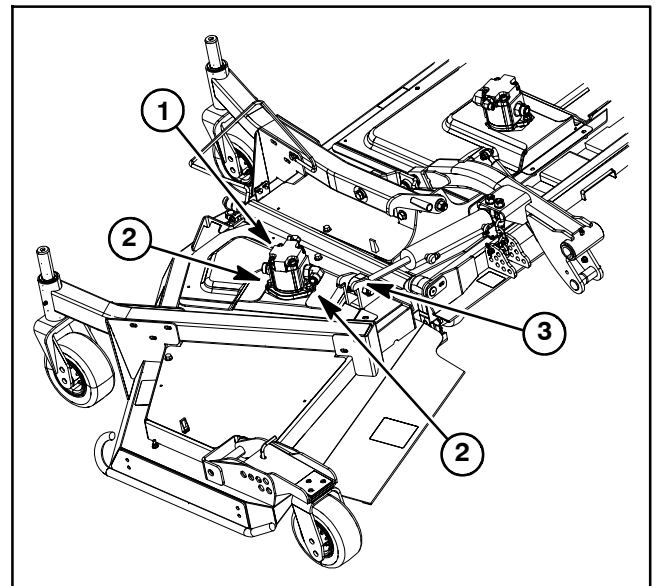
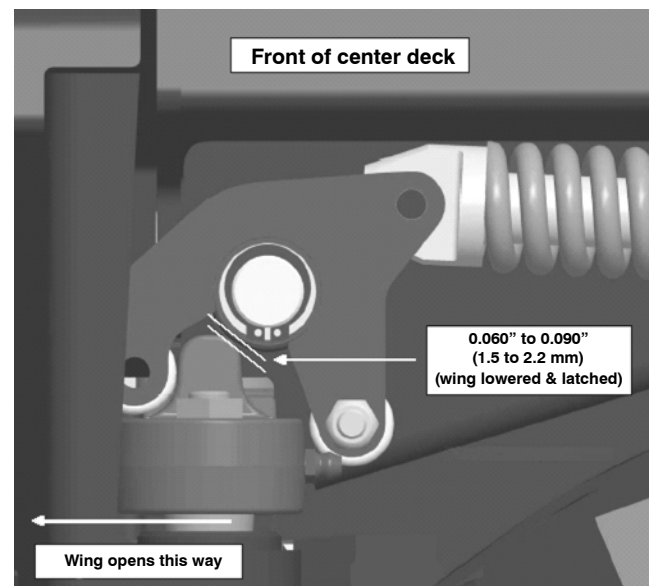

Figure 7
Figure 8
2. Fully raise wing deck, stop engine and remove key from the ignition switch. Remove three (3) washer head screws and shield strap that secure flex shield to wing deck. Lower wing deck.
4. Remove cap screw and lock nut that secure lift cylinder clevis to the wing deck (Fig. 7).
5. Remove switch shield (item 50) from center deck.
6. Support wing deck to prevent it from falling as link assemblies (item 21) are removed.
7. Remove cap screw (item 29) from pivot pin on upper end of both link assemblies. Cap screw on rear link also uses a flat washer (item 28).
- A. Place one (1) hardened spacer (item 42) on each side of the front link. Use two (2) thrust washers on rear side of assembly so that link is snug between deck brackets. Additional thrust washers should be installed, if necessary, to remove excess clearance.
- B. Place one (1) thrust washer (item 6) on each side of rear link. Clearance between rear link and deck bracket is acceptable.
7. Install cap screw (item 29) to pivot pin on both links. Cap screw on rear link uses a flat washer (item 28). Cap screw on front link also secures hose guide (item 38).
8. Position lift cylinder clevis to the wing deck and secure with cap screw and lock nut (Fig. 7).
10. Fully raise wing deck, stop engine and remove key from the ignition switch. Secure flex shield to wing deck with shield strap and three (3) washer head screws. Lower wing deck.
11. Inspect deck latch assembly to insure that front link is locked when the wing deck is in the lowered position. There should be a gap from **0.060” to 0.090” (1.5 to 2.2 mm)** between the arm latch actuator and the latch pivot (Fig. 8). If gap is incorrect, adjust link position by repositioning the location of the hardened spacers (item 42) and thrust washers (item 6). At a minimum, there must be one (1) hardened spacer positioned to the rear of the front link.